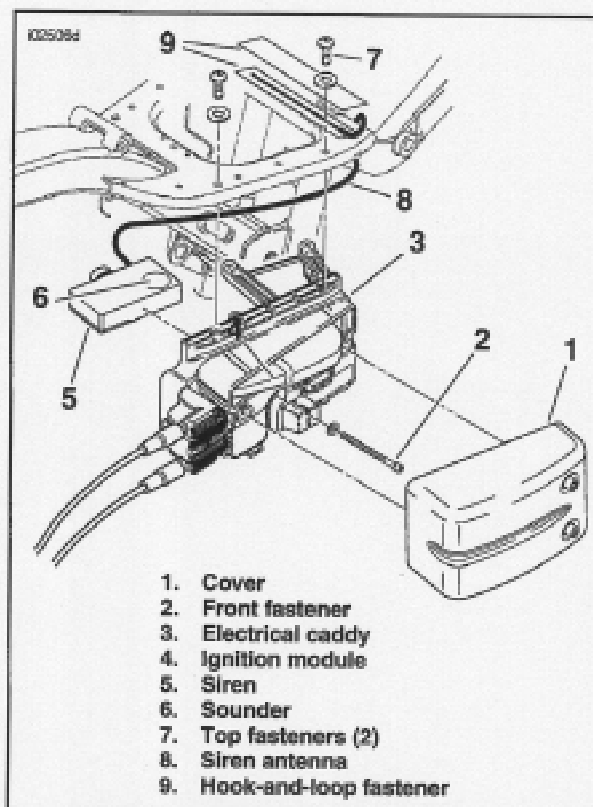

Figure 13. Install Siren in Electrical Caddy (Dyna Models)
2. See Figure 13. Firmly grasp both sides of the electrical caddy cover (1), and pull outward to remove.